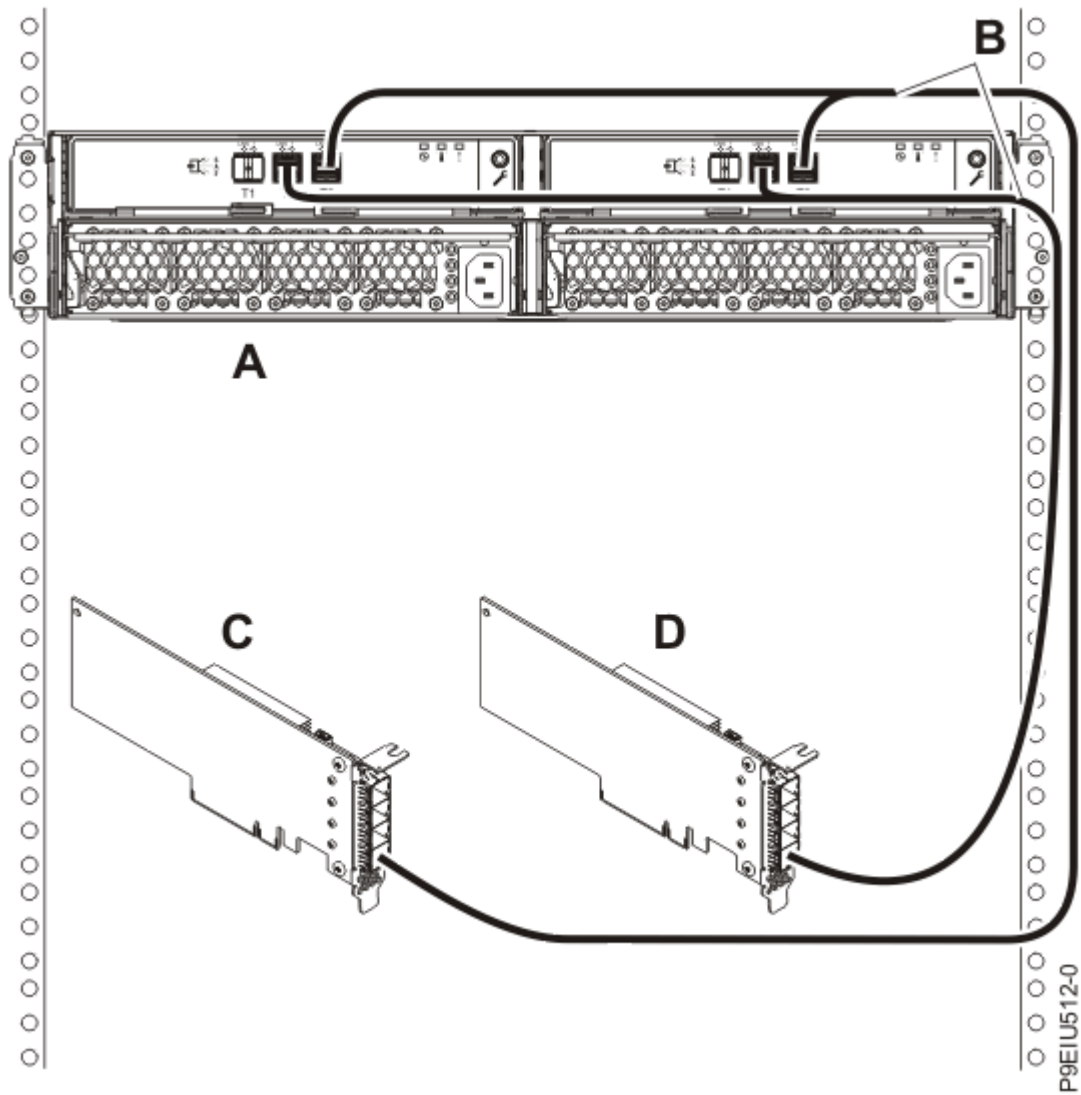

Figure 18: Mode 2 connection of one ESLL or ESLS storage enclosure by using YO12 cables to two independent FC EJ0J, FC EJ0K, or FC EJ0M SAS adapters
18. Complete a mode 2 connection of one enclosure (A) by using YO12 cables (B) to two independent FC EJ0J, FC EJ0K, or FC EJ0M SAS adapters (C and D), as shown in Figure 18 on page 23. Then, continue with “Connecting cables, power cords, and installing covers” on page 29.